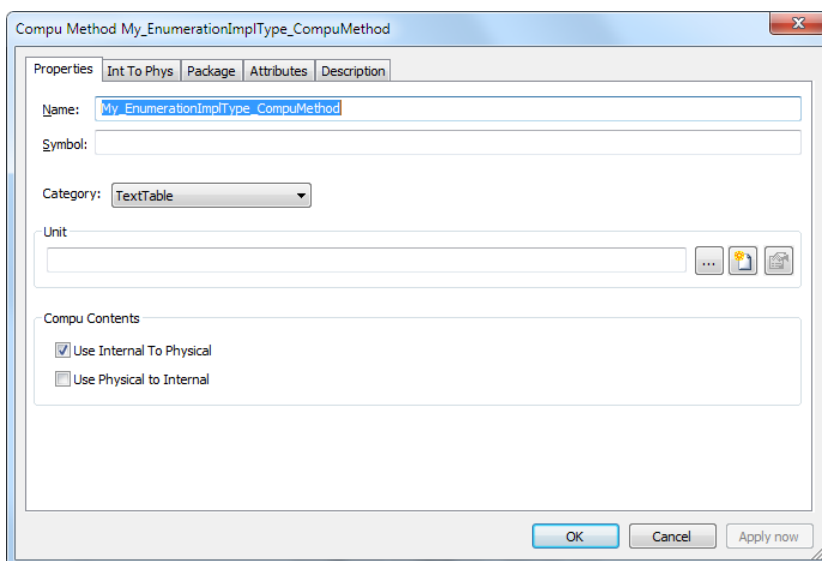

Figure 4-36 My_EnumerationImplType_CompuMethod
- ▶ It references “My_EnumerationImplType_CompuMethod” which defines a text table conversion (see Figure 4-36).